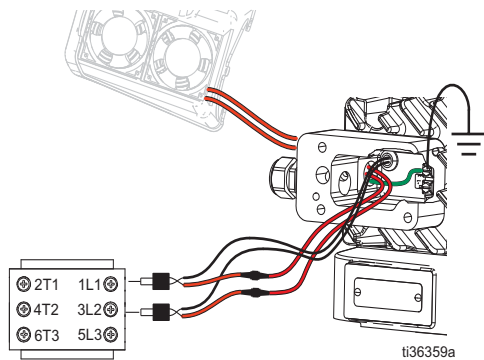

FIG. 14: Attach Grounding Screw
3. Use a ferrule to connect each fan wire to one of two wires coming out of the electronics cover (3) and crimp ferrule with a crimp tool. Then attach one wire set into the disconnect block (7) terminals 1L1 and the other wire into location 3L2. See FIG. 14 on page 16.
4. Tuck wires back into junction box (88) and reinstall junction box cover (89) with four screws (91).